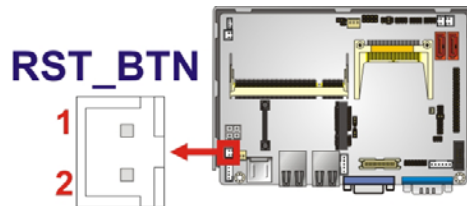

Figure 3-8: Reset Button Connector Locations
- CN Location:** See **Figure 3-8**